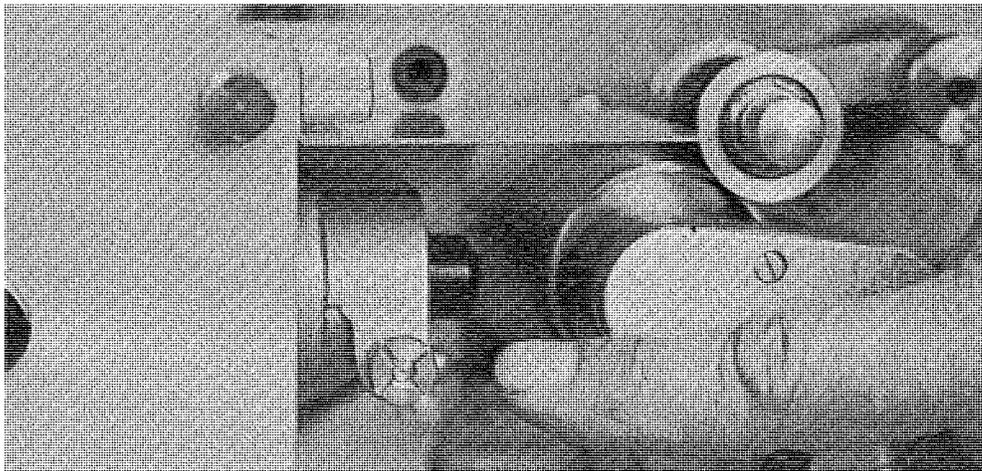
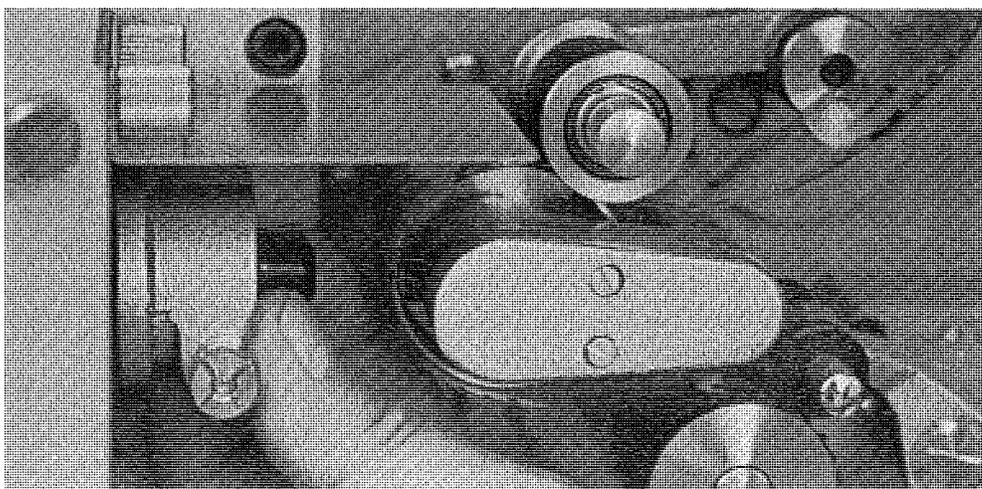

Fig. 6-2: Slit Lens Locking Nut
Fig. 6-3: Rotating Slit Lens
- 6.4.2 Thread a loop (or reel-to-reel length) of SMPTE Sound Focus and Azimuth Alignment Test Film through the projector. (Note: this test film is available in two versions: P35-SF-A reproduces a 9 KHz test tone and is used where high precision is required; P35-SF-B reproduces a 7 KHz test tone and can be used in general theatre installations where lower precision is adequate.) Connect a meter to the sound system output and adjust this meter to read out on a scale of 0-10 Volts AC. Carefully loosen the Slit Lens Locking Nut (TSR-W-13) (Fig. 6-2) just to the point where the lens may be moved by hand. The less play you allow the lens, the easier the adjustment will be. Turn the projector, exciter lamp and sound system on. Carefully rotate the Slit Lens (TSR-W-14) (Fig. 6-3) while moving it back and forth laterally until its optimum focus and azimuth position is found. This optimum position is the one which produces the maximum meter reading on the meter. When this position is found, carefully tighten the Slit Lens Locking Nut to secure the lens in place.